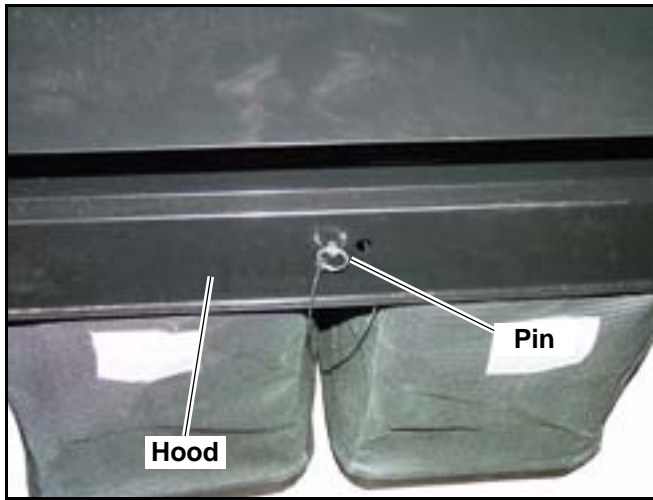

Figure 3-15
10. Place the bags in the catcher assembly, making sure that the non-mesh side of the bag is towards the operator, close the hood and insert the pin. Fig. 3-14 & Fig. 3-15
11. Place the bags in the catcher assembly, making sure that the non-mesh side of the bag is towards the operator, close the hood and insert the pin. Fig. 3-14 & Fig. 3-15
that the non-mesh side of the bag is towards the operator, close the hood and insert the pin. Fig. 3-14 & Fig. 3-15